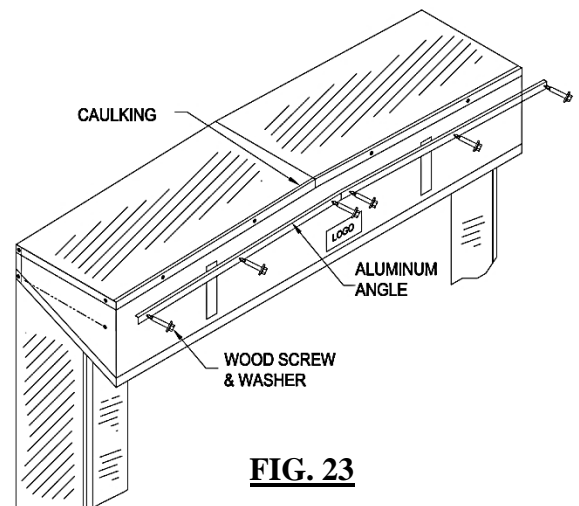

FIG. 23
- b. **Reattach Aluminum Angle** to front edge of Head Frame (Figure 23).